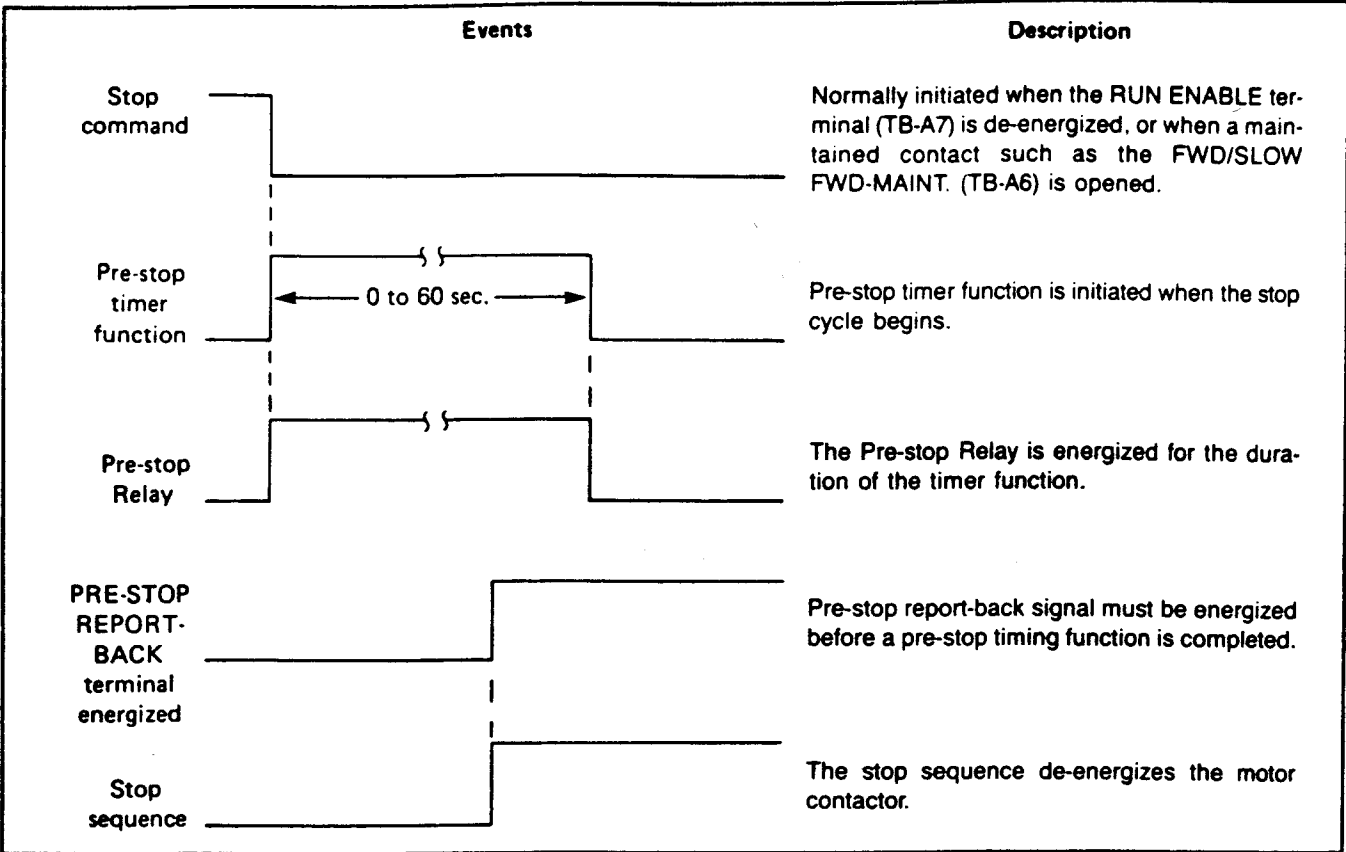

Figure 6.4 — Pre-stop Events Diagram
6.16 Pre-stop Timer — The pre-stop timer setpoint function, initiated after the stop command is received, can be used to control auxiliary functions during the stop sequence. For example, cooling pumps may be enabled or valves and louvers may be closed just before the motor turns off. As shown in Figure 6.4, the pre-stop timer function and the Pre-stop Relay are enabled when a stop command occurs.